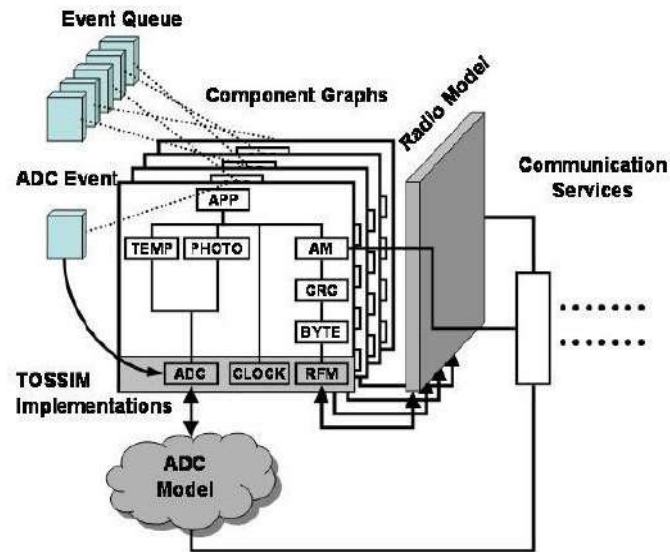

Figure 5.6 TOSSIM Architecture
- Figure 5.6 shows the working flow of TOSSIM. The TOSSIM architecture is consisted of five segments: Frames, Components, Models, Services and Events.